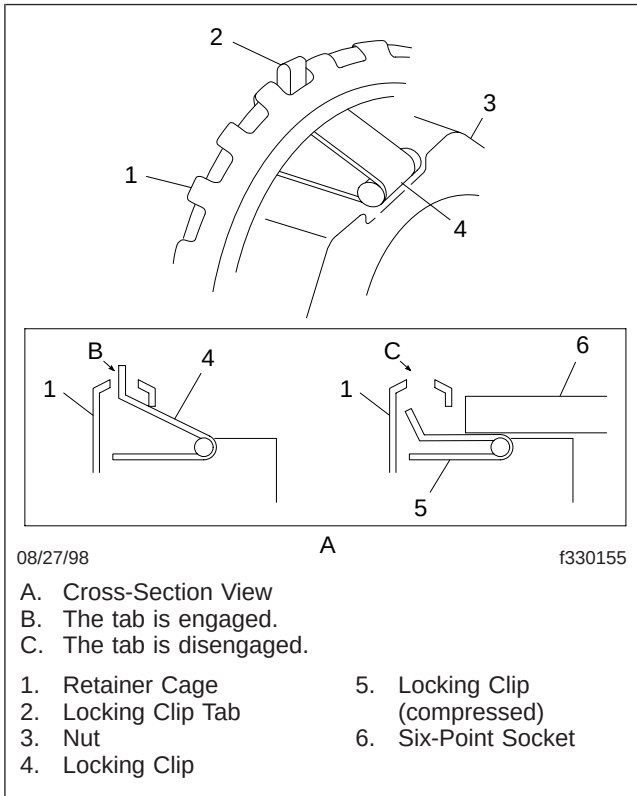

Fig. 2, Axilok Nut, Checking the Position of the Locking Clip
- Always start an Axilok installation by hand. A good-fitting six-point socket will completely disengage the nut's locking clips, allowing it to spin freely by hand. See Fig. 2. Use an accurately calibrated torque wrench to tighten the nut to its final torque value.
4. Ensure that both locking clips are present and engaged in the retainer cage. See Fig. 2. If the locking clips are not engaged, the nut is not locked in position and can rotate freely.